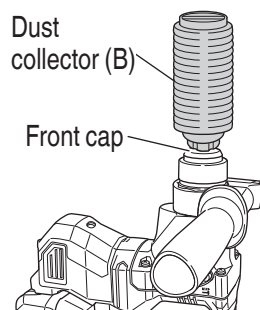

Fig. 28
When using dust collector (B), insert dust collector (B) from the tip of the bit by aligning it to the groove on the grip. (**Fig. 28**).